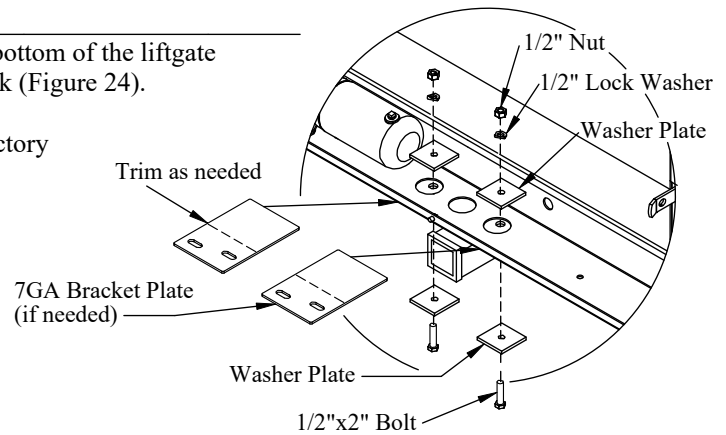

Figure 24: Lower bracket support (Class 5 hitch).
1. **Assemble** the supplied hardware through the outer two holes in the bottom of the liftgate mainframe and the two holes in the factory hitch plate on the truck (Figure 24).